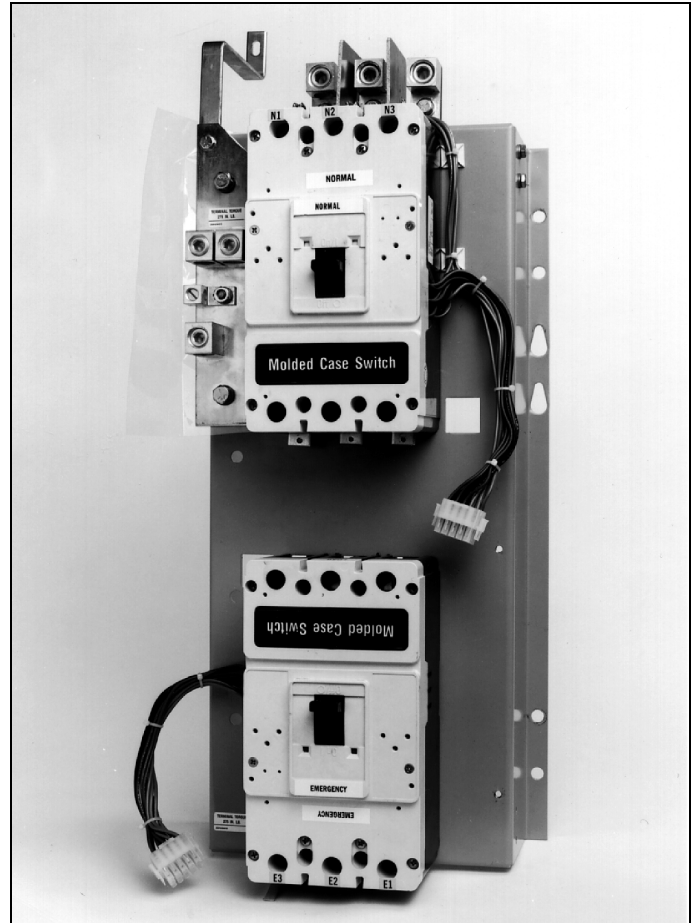

Figure 22.Power Panel Removed from the Enclosure (with the Transfer Mechanism Removed for Clarity - 225-1200 A Models).
Step 3: Remove the four bolts that secure the power panel in the enclosure. Depending upon the size of the panel, it may be advisable to have assistance with the removal. Once the power panel is free, carefully move it to a solid work surface (Figure 22).